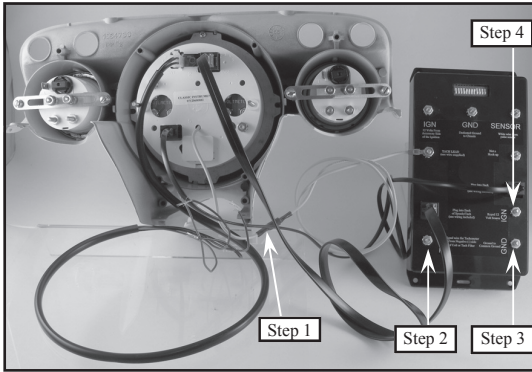

Figure 6
Step 1: Plug in the yellow tach lead from the black box to the yellow wire on the back of the instrument cluster. (Figure 6)
Step 2: Locate the tachometer output signal source from the list below and connect it to the TACH post on the black box. (Figure 6)
Step 3: Connect an 18-AWG wire from the GND terminal post on the lower part of the black box to a common ground. (Figure 6)
Step 4: Connect an 18-AWG wire from the IGN terminal post on the lower part of the black box to the gauge 12-volt source. (Figure 6)